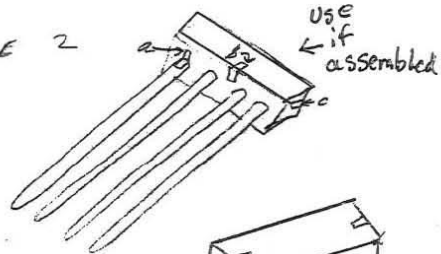

FIGURE 3
- C. Tubular collector – see Figure 3: